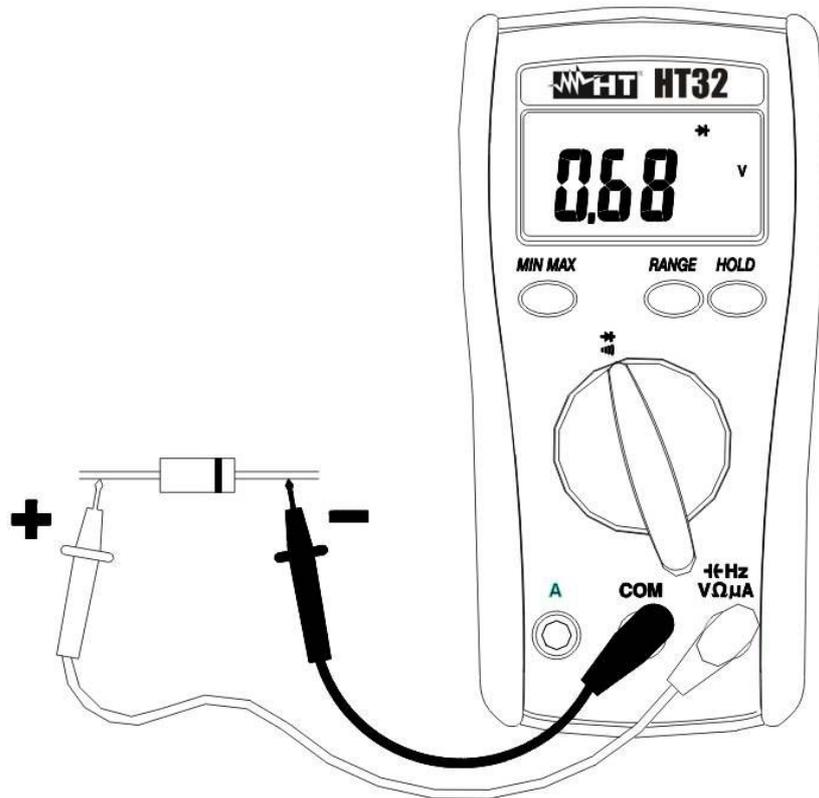

Fig. 8: Diode test and continuity test
2. Insert the test leads into the jacks, the red plug into \rightarrow HzVΩμA jack and the black plug into COM jack (Fig. 8).